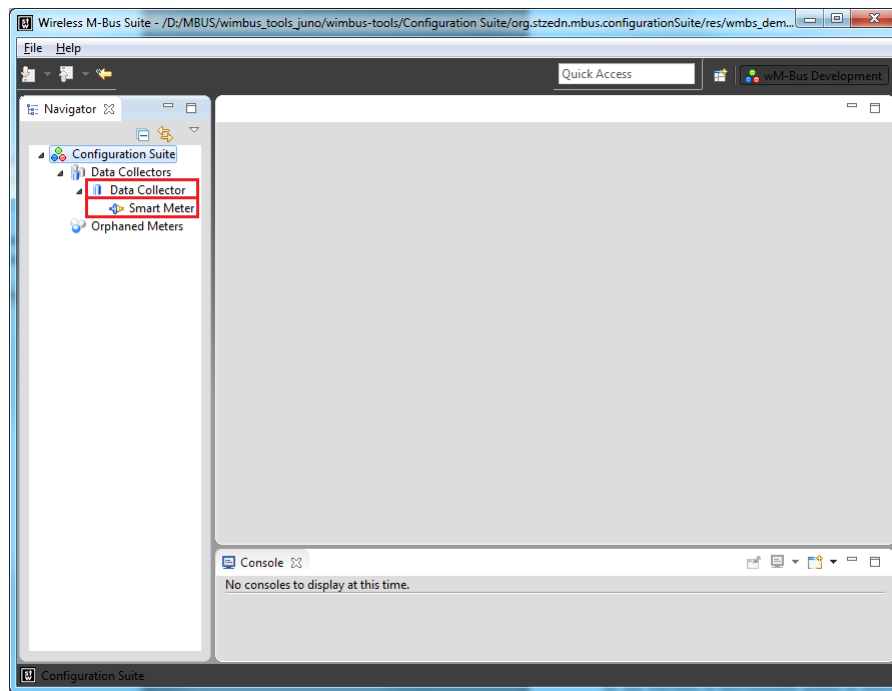

Figure 26: Collector and Meter device
5. Now you can see the 'Data Collector' and the 'Smart Meter' in the configuration suite tree. In figure 26, the correspondig items are framed in red.